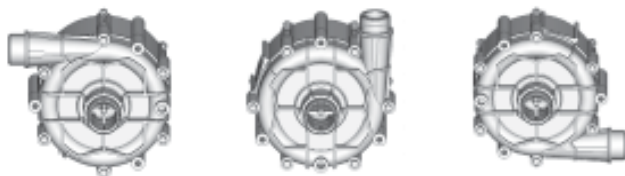

Fig. 8.3.1 B – Allowed position of the hydraulic part
- If necessary insert sockets (Fig. 8.3.1 C, Pos. B) in the back of the drive magnet assembly (Fig. 8.3.1 C, Pos. A).